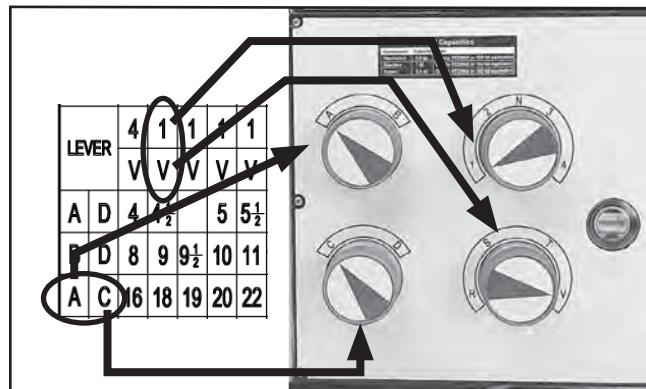

Figure 77. Gearbox dial settings for 18 TPI.
6. Position gearbox dials, as shown in **Figure 77**.